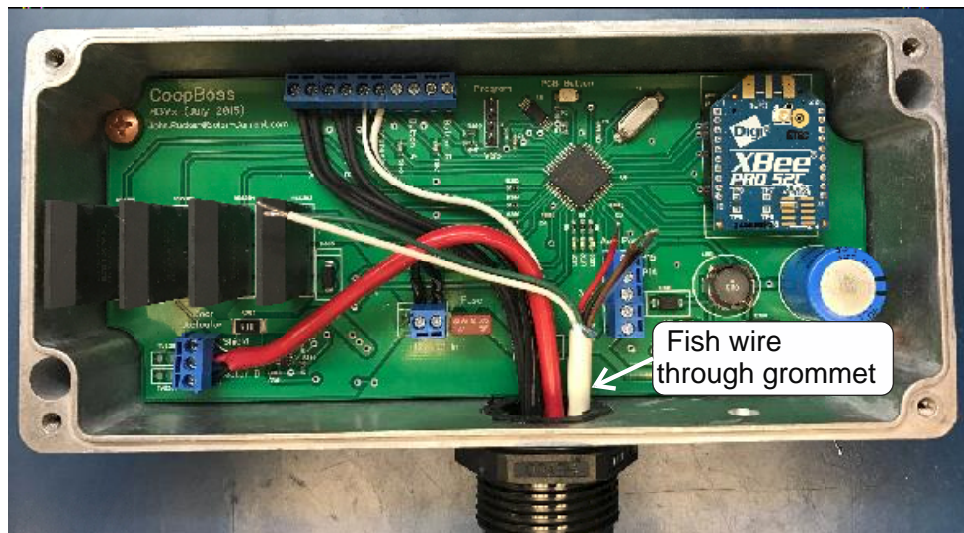

Figure 15
- 3) Fish the new wiring harness into the same hole of the wiring grommet and connect the cable as shown in Figure 15. Notice that the green and white wires are a little longer than the other 4 wires, they will connect to the Button A and Button B ports at the top. All the other wires will connect to the Aux Port closer to the bottom of the PCB.